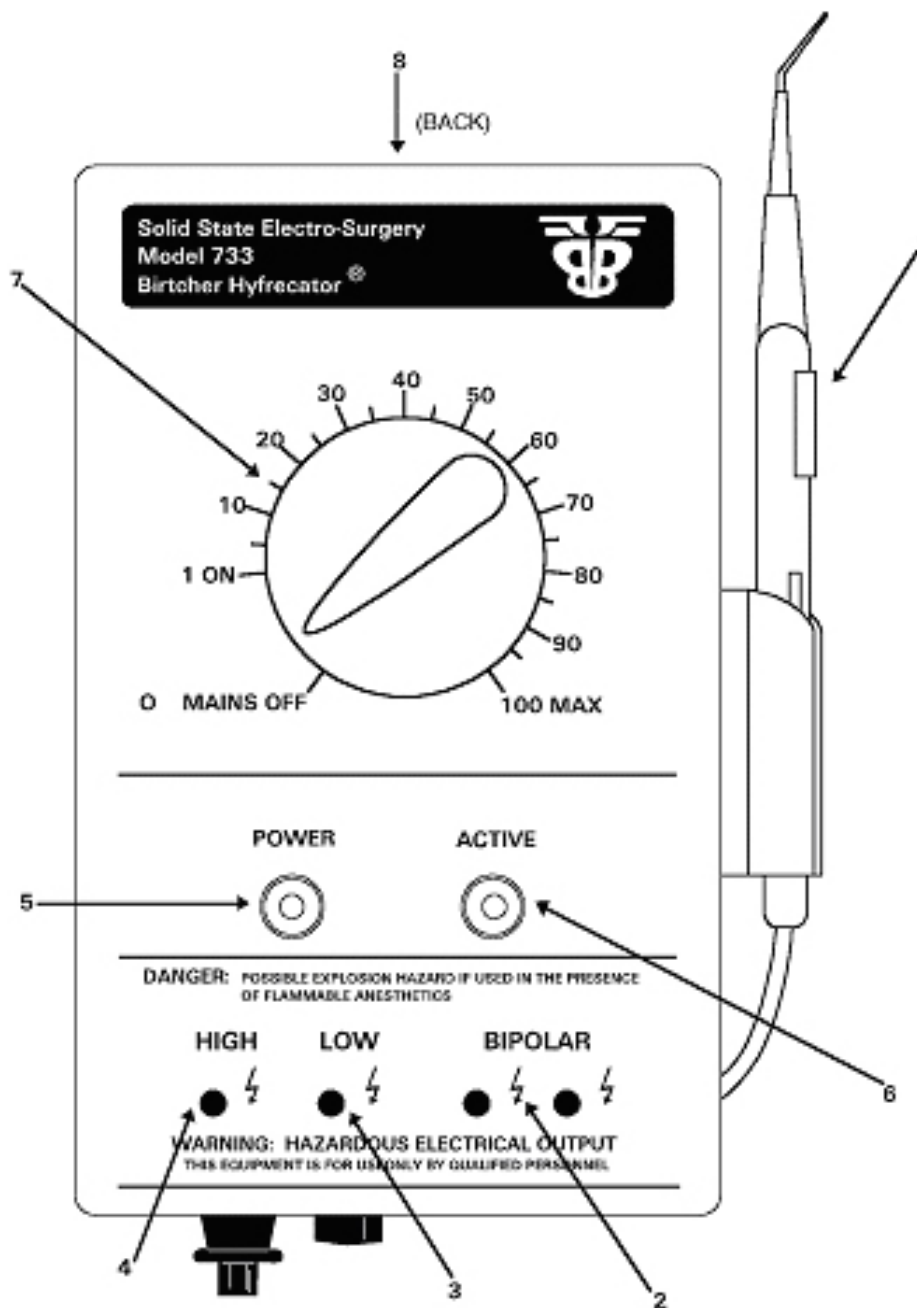
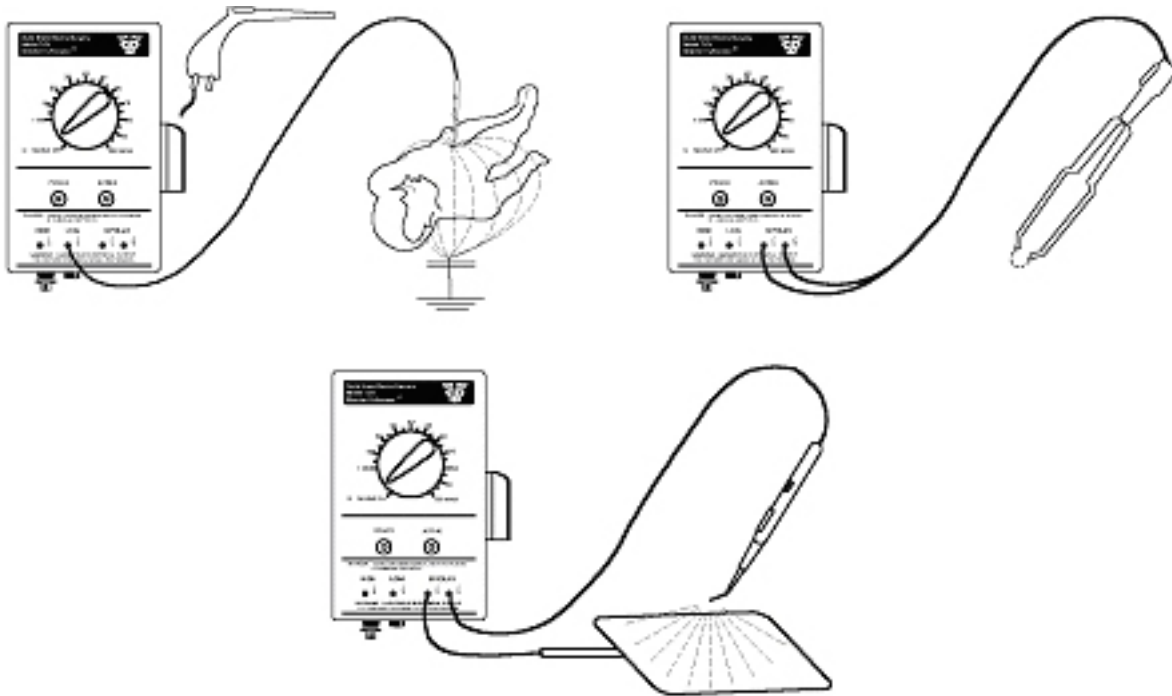

Figure 1-1. Birtcher hyfrecaTOR.
Figure 1-2. Electro-surgical apparatus wands.
Review the functions of the following controls and status indicators to ensure that you understand their purpose and how they function. The number at the end of each control or indicator refers to the item in figure 1-1.
a. **Foot Switching Model 733FS.** This model includes a 711-A handle. The 790 foot switch is supplied as an accessory. (See figure 1-1).
c. **Switching Handle (1).** Both the 711-SW handle and the 711-B needle electrode are shown.
d. **BIPOLAR Outlets (2).** You use the BIPOLAR outlets for bipolar (bi-active or bi-terminal) coagulation techniques. The BIPOLAR outlets are of equal power. The 789 set is available with two tips, one for each BIPOLAR outlet. Single needle techniques require that an indifferent plate electrode (Birtcher 706) be plugged into one of the BIPOLAR outlets and the tip for the electrode handle be plugged into the other.
e. **LOW Outlet (3).** The LOW outlet is a single active terminal. You use it for light desiccation and fulguration techniques requiring low intensity, or monoterminial current.
f. **HIGH Outlet (4).** The HIGH outlet is a single active terminal. You use it for heavier desiccation and fulguration techniques requiring higher intensity or monoterminial techniques.
g. **ON/OFF Pilot Light (5).** The ON/OFF pilot light lights only when you turn the control dial (item 7) clockwise from the OFF to ON position.
h. **ACTIVE Circuit Pilot Light (6).** The ACTIVE pilot light lights only when you activate the foot switch or hand switch.
i. **Control Dial (7).** You use the control dial to select current intensity from "0" (MAINS OFF) to "100" (MAX).
j. **Audio Adjust (8).** You use the audio adjust dial to control the buzzer level volume.
c. **Bipolar Configurations.** Bipolar electrodes actually determine the path of the therapeutic current in the area to be coagulated. Bipolar coagulation does not allow the current to flow through the surrounding organs or tissue. You may also use the 782 and 789 sets in this configuration in place of the forceps as shown in figure 1-2.
- (1) Inspect the unit casing for cracks and breaks (figure 1-1).
- (2) Inspect the power cord for the following:
- (3) Inspect the output wand to ensure that there are no frays or cracks present (figure 1-2).